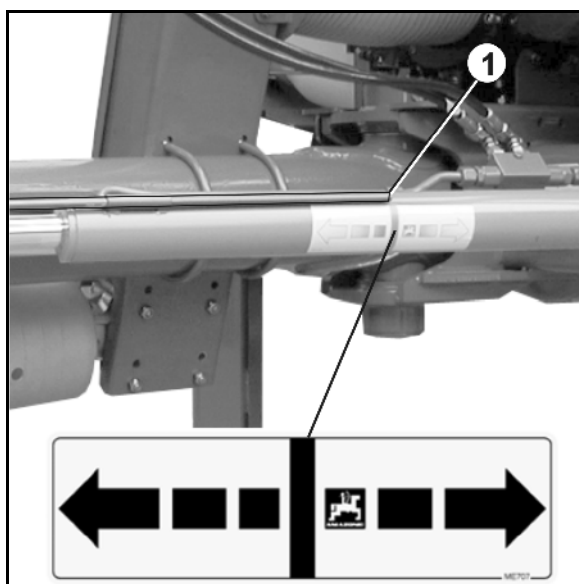

Fig. 46
1. Actuate tractor control unit *blue* until the drawbar is at the zero setting (Fig. 46/1).